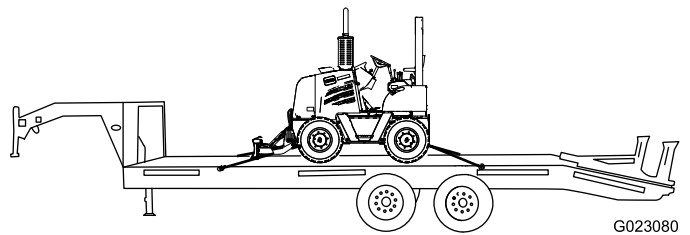

Figure 28
9. Fasten the front of the machine to the trailer using straps and a binder (Figure 28).
10. Fasten the rear of the machine to the trailer using chains and a binder (Figure 28).